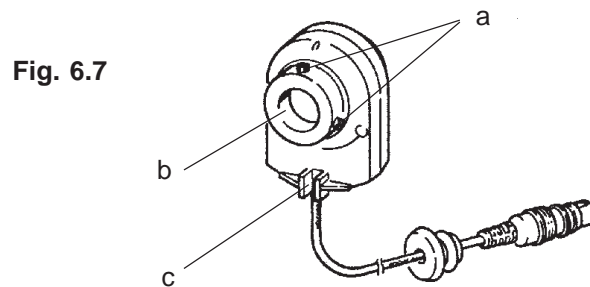

Fig. 6.7
- Fig. 6.7 shows a front view of the synchronizer. Slip the synchronizer onto the accommodation stub on the handwheel and secure by means of 2 socket head hex screws (a).